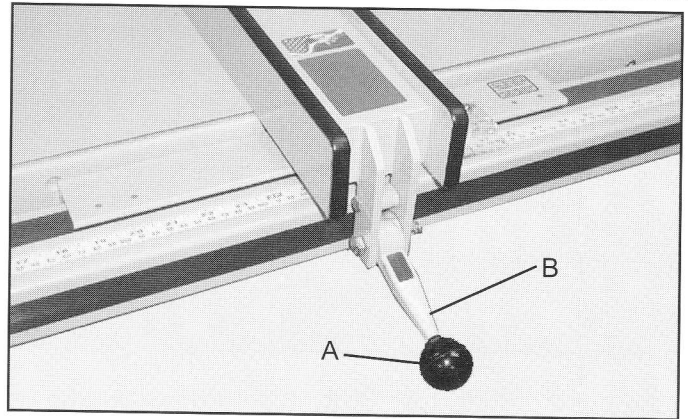

Fig. 23
1. Attach knob (A) Fig. 23 to locking knob (B). Knob is screwed onto threads of locking handle.